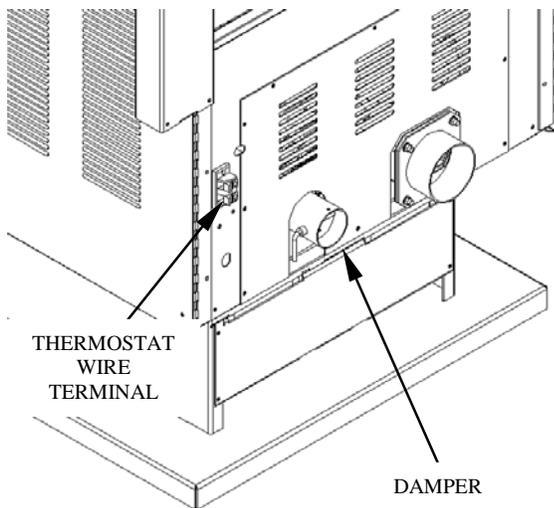

Figure 4
Your stove is equipped with an air inlet damper. (See Figure 4) This is one of the most
**Thermostat Control** - Most multi-fuel stoves aren't capable of using a thermostat. This is due to the fact that many fuels do not react very well to sudden increases in the feed rate. A stove that goes from a #1 setting to a #5 setting will almost always have problems making that transition. The burn pot will overload and the fire will go out. The St. Croix corn stove uses a simple time delay between each Heat setting to allow the stove to react to the increase in corn. This allows the stove to function very well on a thermostat. A Milivolt type thermostat will work with this control board. **The stove is not fully automatic when running on a thermostat, when the thermostat is not calling for heat the stove will drop to the low (#1) setting as a pilot.** For location to connect the thermostat wires see Figure 4 on page 10.